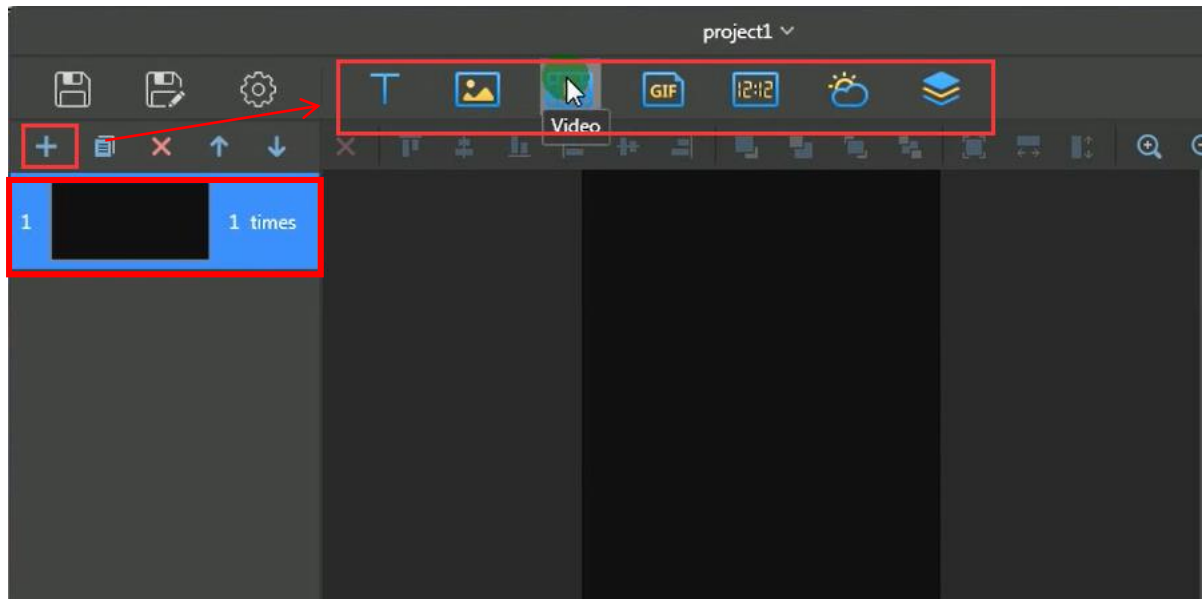

fig 7.7
f. Select text, image, video, gif, clock, weather, and container for each page. Please refer to fig 7.7.